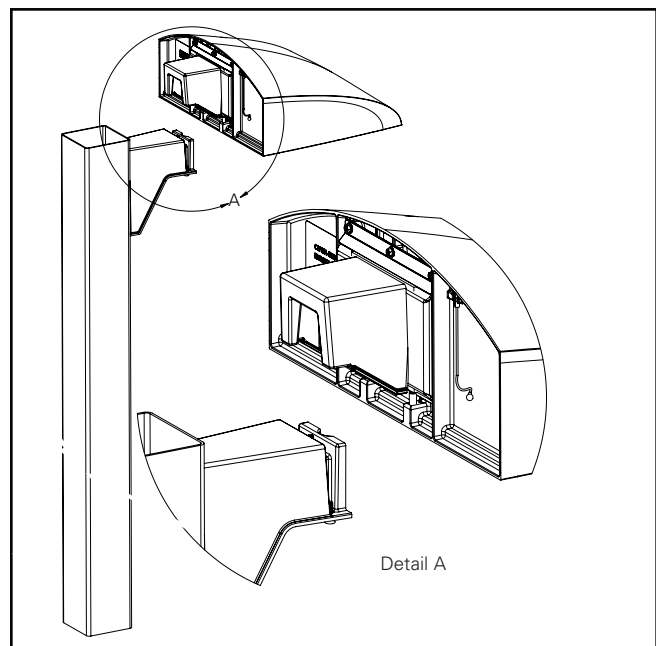

Figure 10.
4. Attach the quick-connect adapter to the fixture, pulling the luminaire supply leads through the wedge plate center hole. Tighten the (2) 1/4-20 lock screws on the fixture to 20 in-lbs. (Figure 10.)